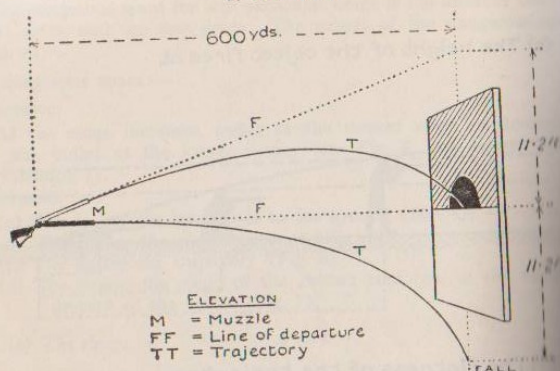

FIG. 8.
1. *Elevation.*—In order to allow for the fall of the bullet, it is necessary to direct the line of departure as much above the object to be hit as the bullet will fall below it if the axis of the barrel is pointed at the target. This raising of the barrel to allow for the curve of the trajectory is termed giving elevation (Fig. 8).